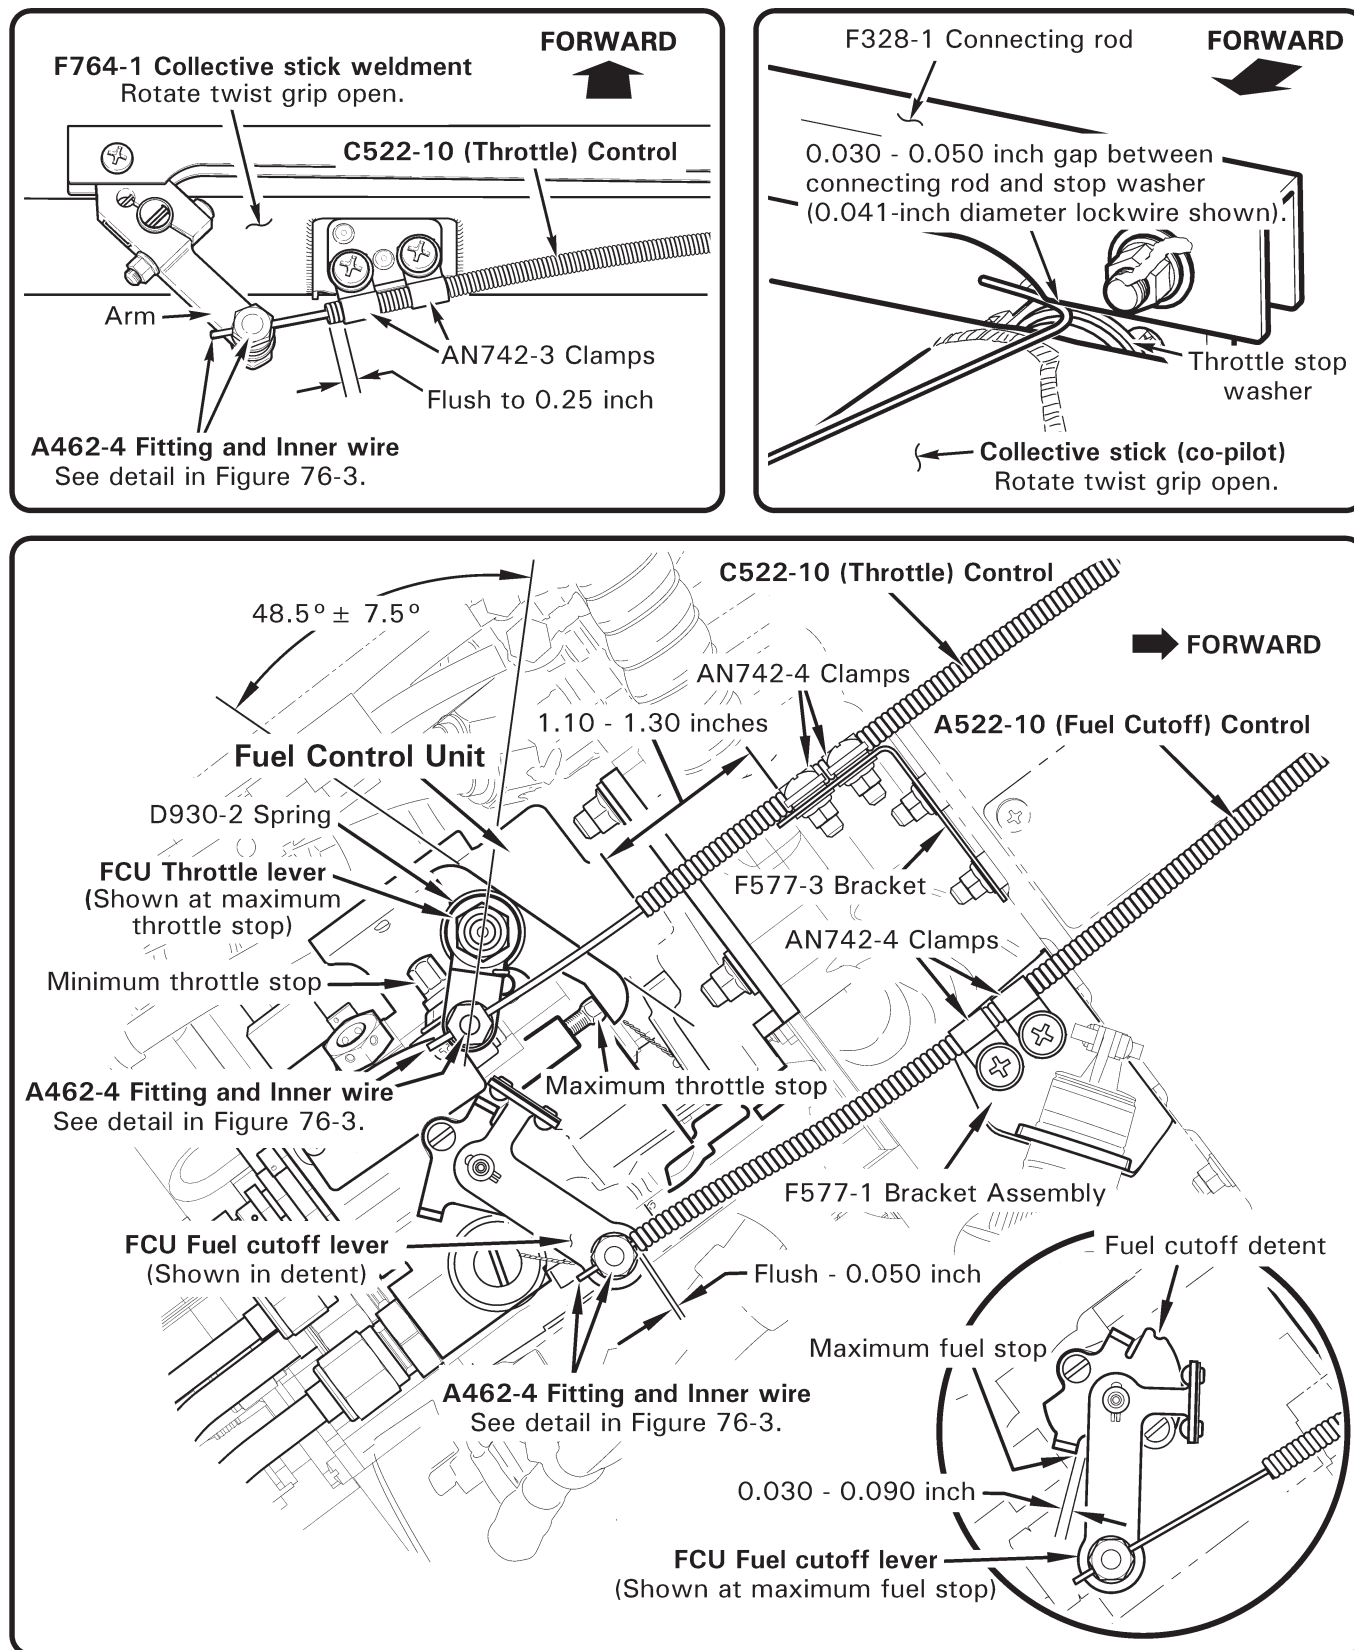

FIGURE 76-1 FUEL CONTROL UNIT
2. Refer to Figure 76-1. Remove fasteners securing C522-10 throttle and A522-10 fuel cutoff control inner wires to FCU throttle and fuel cutoff levers.
2. Refer to Figure 76-1. Verify FCU throttle lever rigging angle is  $48.5^{\circ} \pm 7.5^{\circ}$ . As required, remove hardware securing serrated levers and reposition to proper angle. Install hardware, special torque nut per Section 20-33, & torque stripe per Figure 5-1.
2. Refer to Figure 76-1. Remove palnut and loosen nut securing A462-4 fitting and A522-10 (fuel cutoff) control inner wire to FCU fuel cutoff lever.